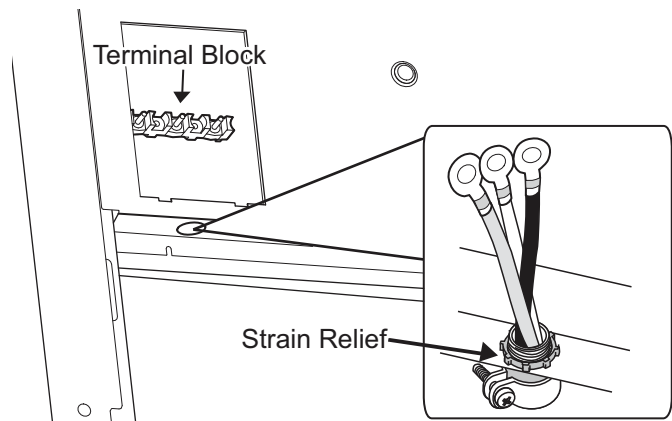

Figure 12: Strain Relief Location
3. Mount strain relief (not provided with range) into the 1" (25.4 mm) diameter hole in the back panel located below the terminal block (see *Figure 12*). Route wires up through strain relief.